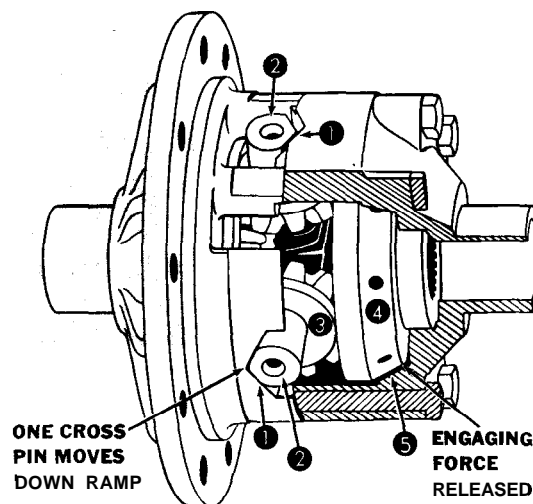

FIG. 4
When turning a corner, this process is in effect partially reversed. The differential gears become a planetary gear set, with the gear on the outside wheel the fixed gear of the planetary. The outer gear of the planetary overruns as the outside wheel has a further distance to travel. With the outer gear overrunning and the inner gear fixed, the differential pinions (3, Fig. 4) are caused to rotate, but since they are restricted by the fixed gear, they must first move the cross pins (2) back down the cam surface (1) relieving the thrust load of the clutch ring on its mating surface in the differential case. Thus when turning the corner, the differential, for all practical purposes, is similar to a conventional differential and the wheels are free to rotate at different speeds.